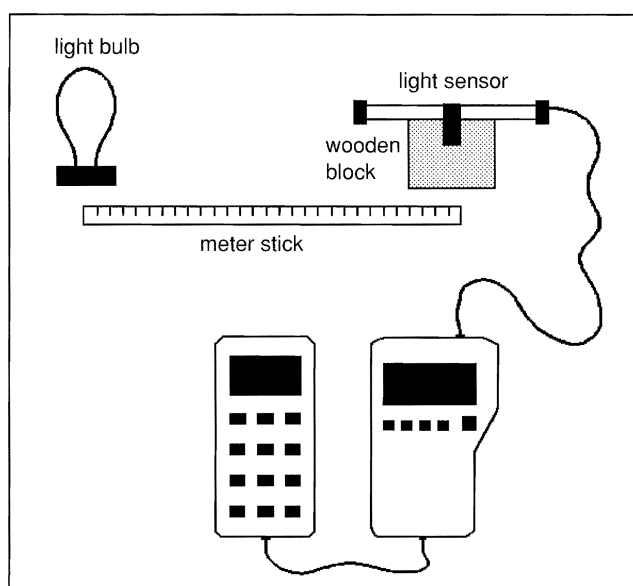

Figure 1: Equipment Setup
To connect the equipment as shown by Figure 1:
- 3 Secure the light sensor to a wooden block with tape. Position the sensor so that it is facing the light bulb as shown in Figure 1.